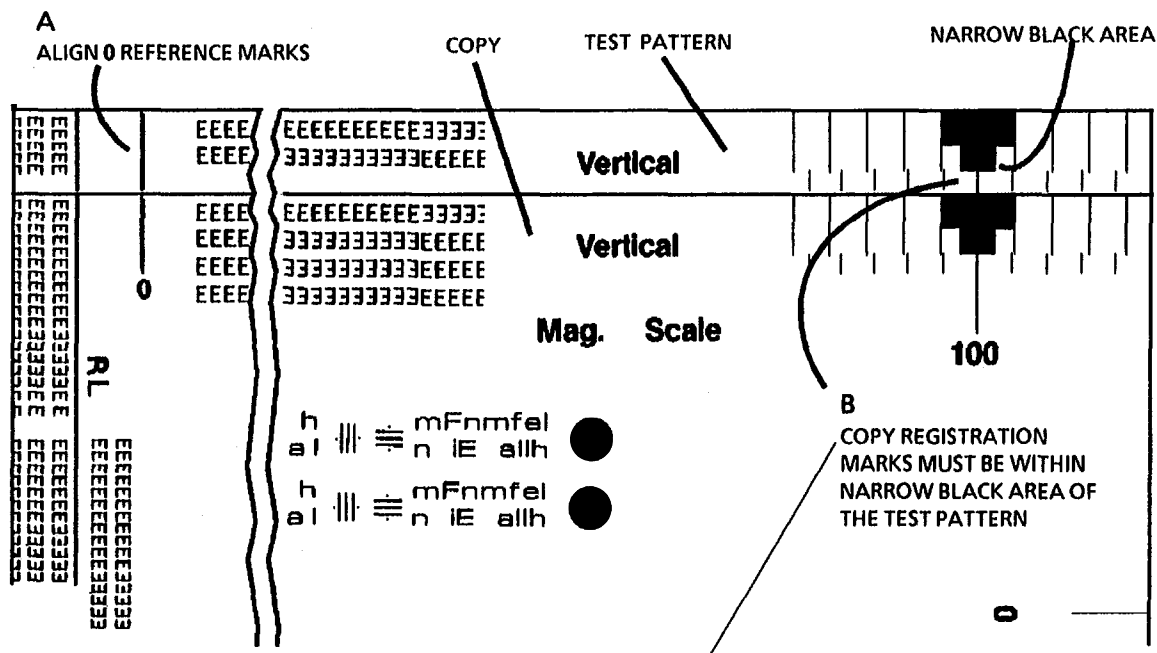

Figure 1. Compare the Reference marks on the Test Pattern with the Marks on the Copy
4. (Figure 1): Compare the **Vertical Mag. Scale** reference marks on the test pattern with the marks on the copy.